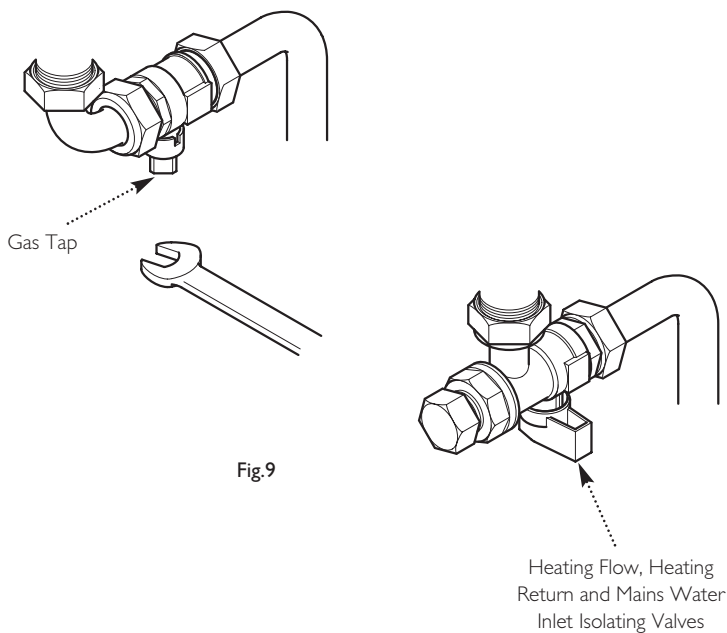

Fig.9
1. Using a suitable open ended spanner, turn the square nut on the gas tap through 90° ( $\frac{1}{4}$  turn) to isolate the gas supply at the boiler (Fig. 9).
2. The water isolating valves are positioned under the boiler and can be closed by turning their taps to the right towards the wall (Fig. 9).